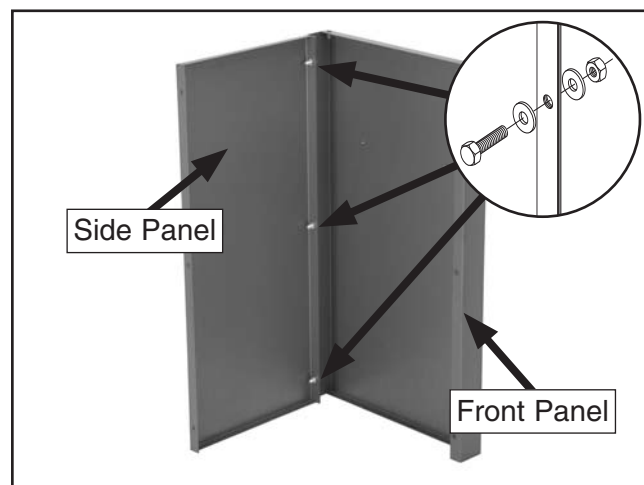

Figure 11. Front and side panels.
1. Attach the front panel to one of the side panels with three M8-1.25 x 20 hex bolts, nuts, and six flat washers, as shown in **Figure 11**.